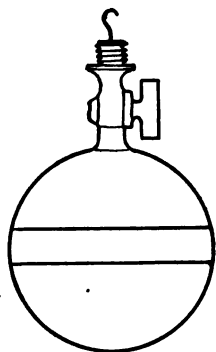

FIG. 292
**300. Gases Have Weight.** Gases have weight, just as do liquids. This may be easily shown by weighing the brass globe (Fig. 292), which is at first filled with air. If it is again weighed after pumping out the air, there will be a difference in weight equal to the weight of the air removed.